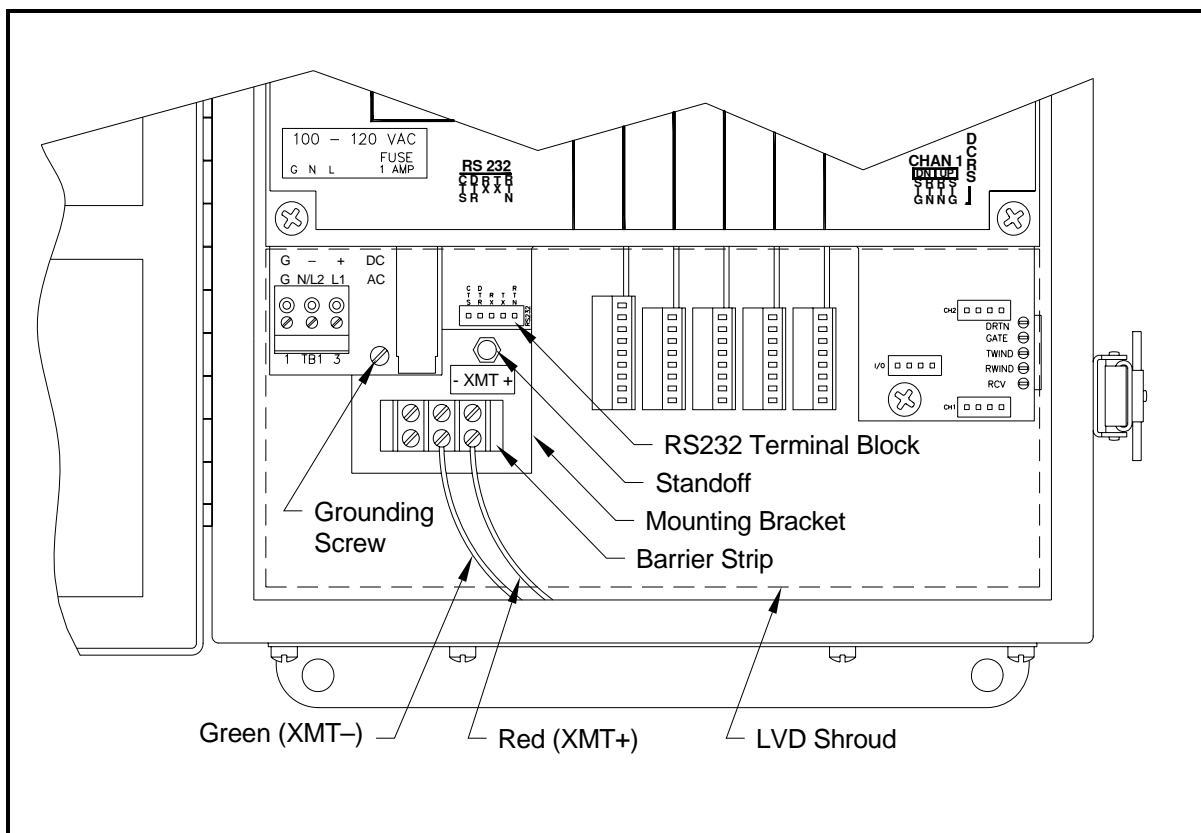

Figure 6-1: Interface Converter Mounting
A special bracket containing the serial interface converter and a three-terminal barrier strip is mounted inside the Model DF868, just below the RS232 terminal block (see Figure 6-1 below). The standard RS232 terminal block is wired to the input of the serial interface converter, and the RS485 output of the serial interface converter is wired to the barrier strip.
Standard factory wiring of the RS485 serial interface is configured for point-to-point wiring. That is, a single Model DF868 may be wired directly to a single personal computer. To connect the RS485 serial interface, refer to Figure 6-1 on page 6-3 and complete the following steps:
3. Remove the serial interface converter *mounting bracket* by removing the standoff located below the RS232 terminal block and the grounding screw just to its left (see Figure 6-1 on page 6-3).